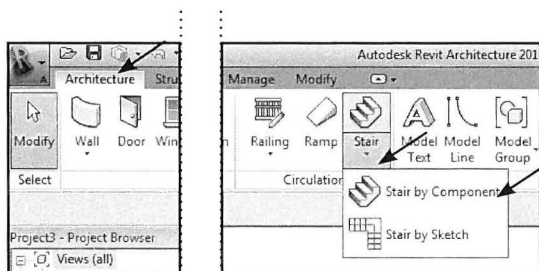

Fig. 10.01.
Begge metoder ligger under *Architecture - Stairs* (Fig. 10.01).
- Vælg *Architecture - Stairs - Stairs by Component* (Fig. 10.01).